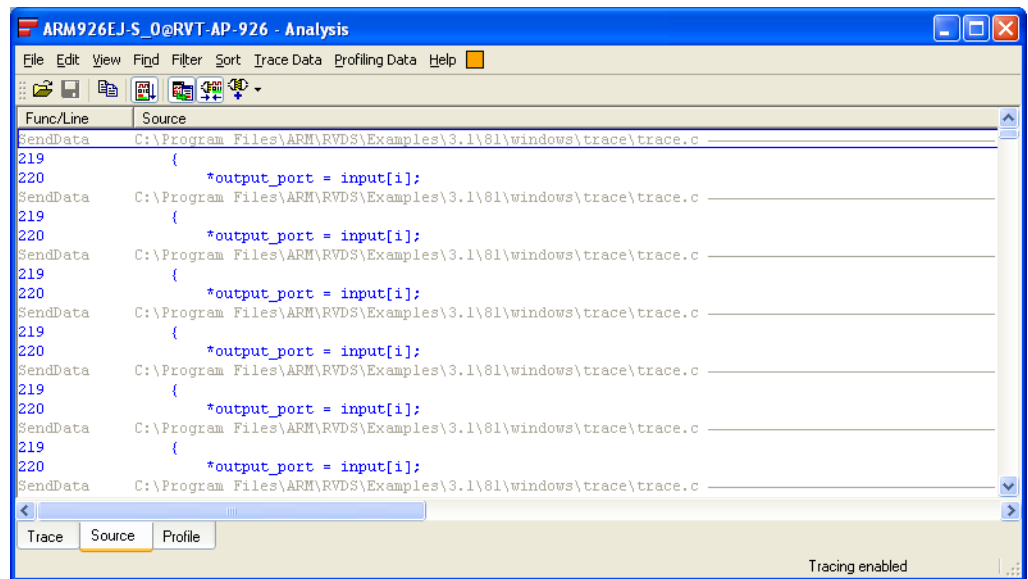

Figure 10-64 Source code corresponding to captured trace
- Click the **Source** tab in the Analysis window. Figure 10-64 on page 10-61 shows an example. Here you can see the program flow corresponding to the captured trace.